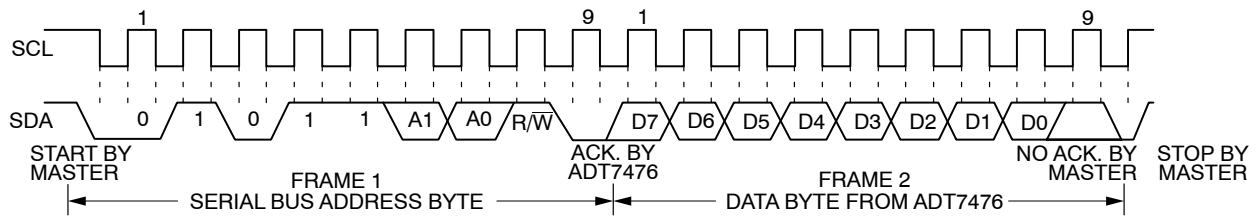

Figure 20. Reading Data from a Previously Selected Register
2. If the address pointer register is already known to be at the desired address, data can be read from the corresponding data register without first writing to the address pointer register (see Figure 20).